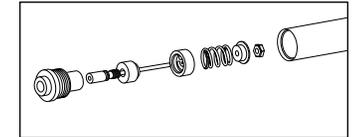

Fig. 5
2. Slide the base valve off the damper rod. Note orientation of the check valve, check plate, wavy washer, and carrier. (Fig. 5)